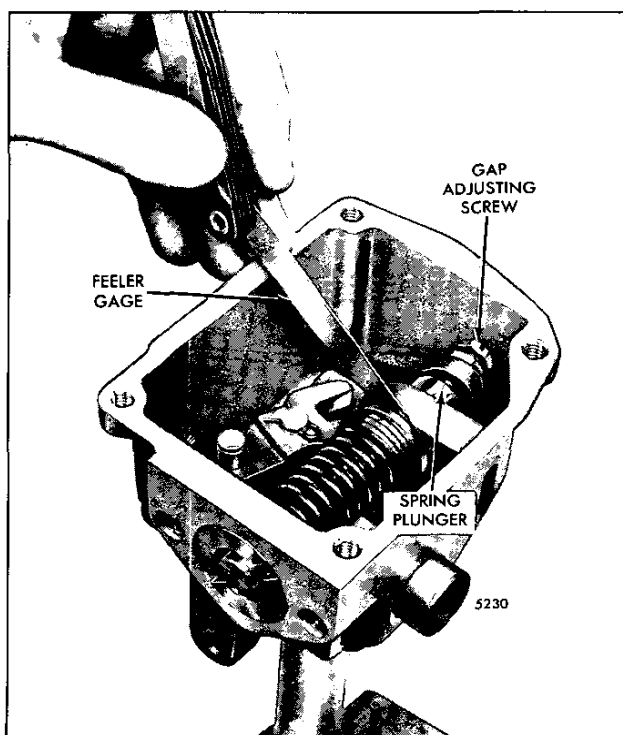

Fig. 1 - Adjusting Governor Gap
4. Insert a .006" feeler gage between the spring plunger and the plunger guide as shown in Fig. 1. If required, loosen the lock nut and turn the gap adjusting screw in or out until a slight drag is noted on the feeler gage.